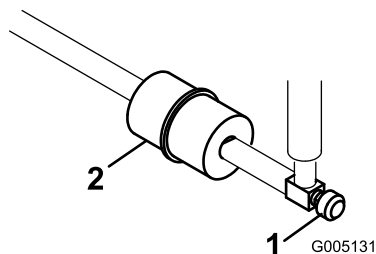

Figure 46
An in-line filter is incorporated into the fuel line between the fuel tank and carburetor (Figure 46). Be sure the arrow on the filter is pointing away from the fuel tank.
1. Close the fuel-shutoff valve, loosen the hose clamp on the carburetor side of filter, and remove the fuel line from the filter (Figure 46).
2. Place a drain pan under the filter, loosen the remaining hose clamp and remove the filter (Figure 46).